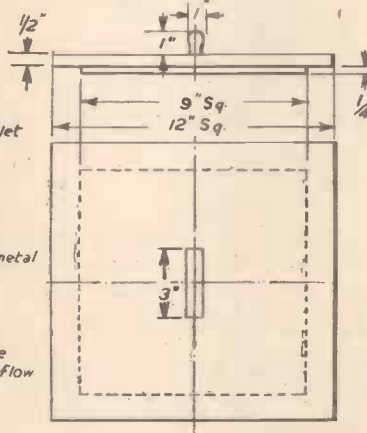

Fig. 8. ITEM 7 LID. 10FF MATL $\frac{1}{2}$ TIMBER AND $\frac{1}{4}$ HARDBOARD
The lid (7) is simply a piece of wood 12in. square with the underside lined with a piece of insulating board 9 $\frac{1}{2}$ in. square by $\frac{1}{2}$ in. thick and a lifting handle fitted on top (Fig. 8).